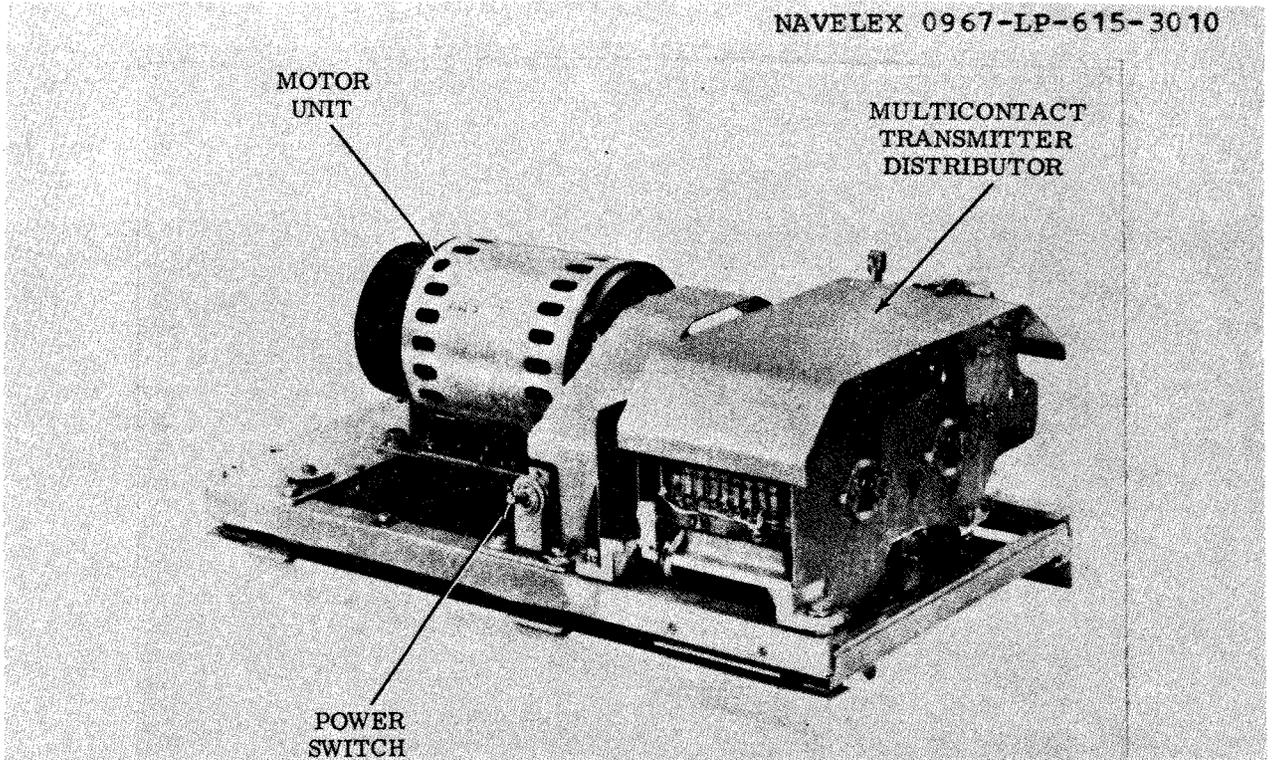
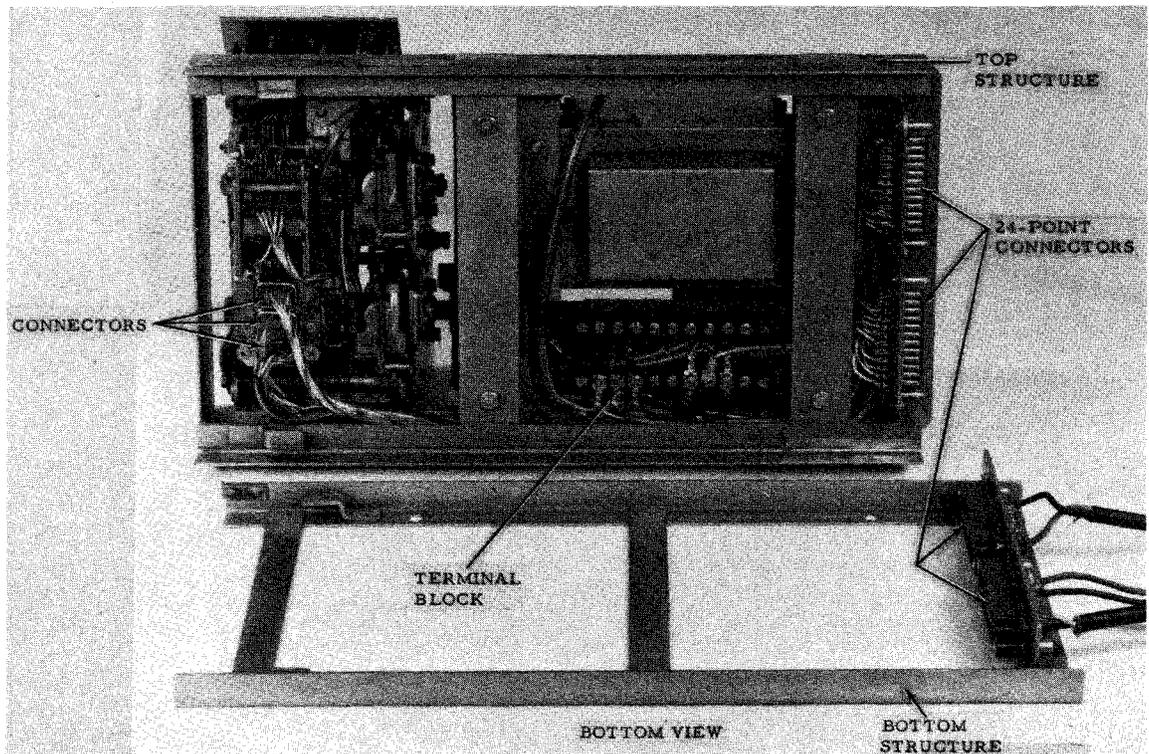

Figure 1-10. Transmitter Distributor Base - Multicontact, Single Mounting (Transmitter Distributor and Motor Unit in Place)
Figure 1-11. Transmitter Distributor Base - Multicontact, Single Mounting Structural View (Transmitter Distributor and Motor Unit in Place)
(2) Multicontact Single Mounting Base. This multicontact TD base is similar to the base previously described. The frame structure is built in two pieces. The top structure serves as a mounting for a motor unit and the TD unit (figure 1-10). The bottom structure serves as a mounting for the top structure. Two 24-point connectors are mounted at the rear of the bottom structure for electrical connection to external apparatus. Two 24-point mating connectors are mounted to the rear of the top structure as a terminal for internal electrical connections. The top structure may be moved forward to disconnect all electrical connections or backward to connect them (figure 1-11). A power switch is mounted to a bracket on the left side and is accessible through the cover. Electrical connections between the base and the TD unit are made through a cable or cables with a multiple connector or connectors, which mate with connectors mounted on the TD unit. The interconnection varies somewhat with different models. Other internal connections are made at terminal blocks under the motor unit position.